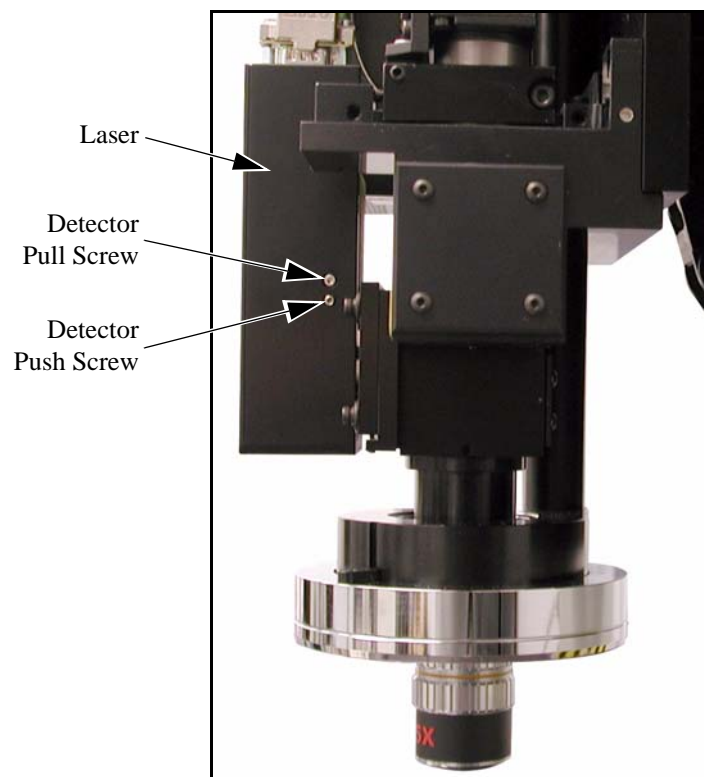

Figure B-13 Location of the Laser Detector Push/Pull Screws
33. Adjust the laser detector push/pull screws (see Figure B-13) until the height signal is 0. When finished, make sure the push/pull screws are snug.